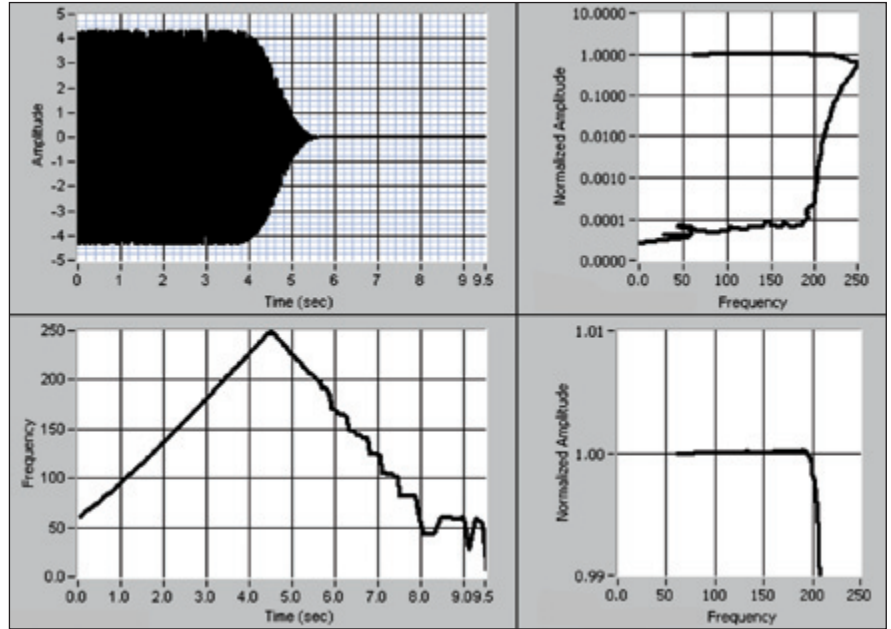

Figure 7. Sine-sweep system characterization.
3. Perform a linear-frequency sine sweep from $S/10$ to $2 \times S$. Make an ASCII file and load it into the program. A good result is shown in Figure 7. The plots show: